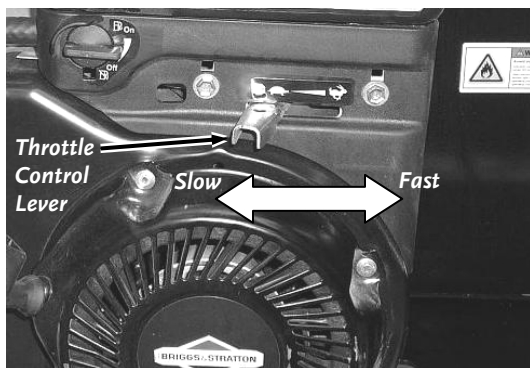

Figure 16
3. Move the Throttle Control Lever to about half way between Slow and Fast position (**Figure 16**).
6. When the Engine is warmed up and running smoothly with the Choke in the “RUN” position, move the Throttle Control Lever to the fast position (rabbit icon) for chipping (**Figure 16**).
1. Slowly move the Throttle Control Lever all the way to the “STOP” position (*Figure 16*).